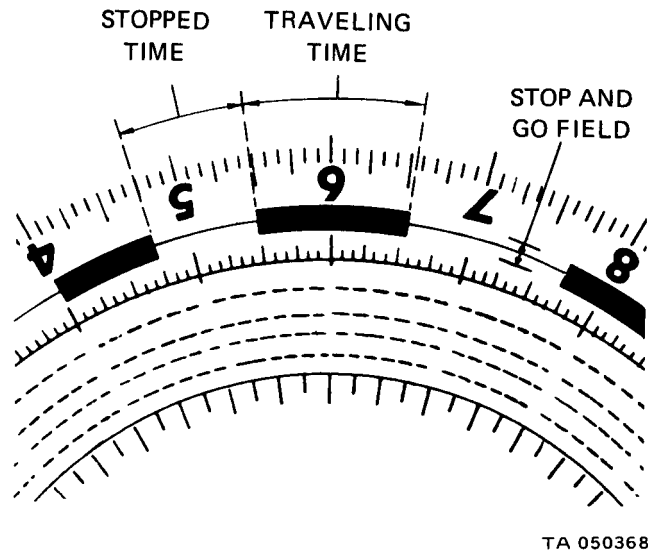

Figure 20-4. Stop and Go Recordings
(2) Stop and go field. The stop and go field (Fig. 20-4) is between the inside time scale and the distance recording field. The stop and go stylus records when the truck is moving or standing still. The recording mechanism is made up of an oscillating pendulum balanced by a spring. When the truck is moving, the pendulum vibrates, which makes the stop and go stylus move up and down. This up and down movement of the stylus makes a solid looking red bar about 1/16-inch wide. When the truck is stopped, the stylus will not move up and down, so a thin red line will be recorded. The vibrating pendulum records all vibrations of the truck without any connections to the drive train. This recording will work even if the drive cables are broken or taken off the tachograph.